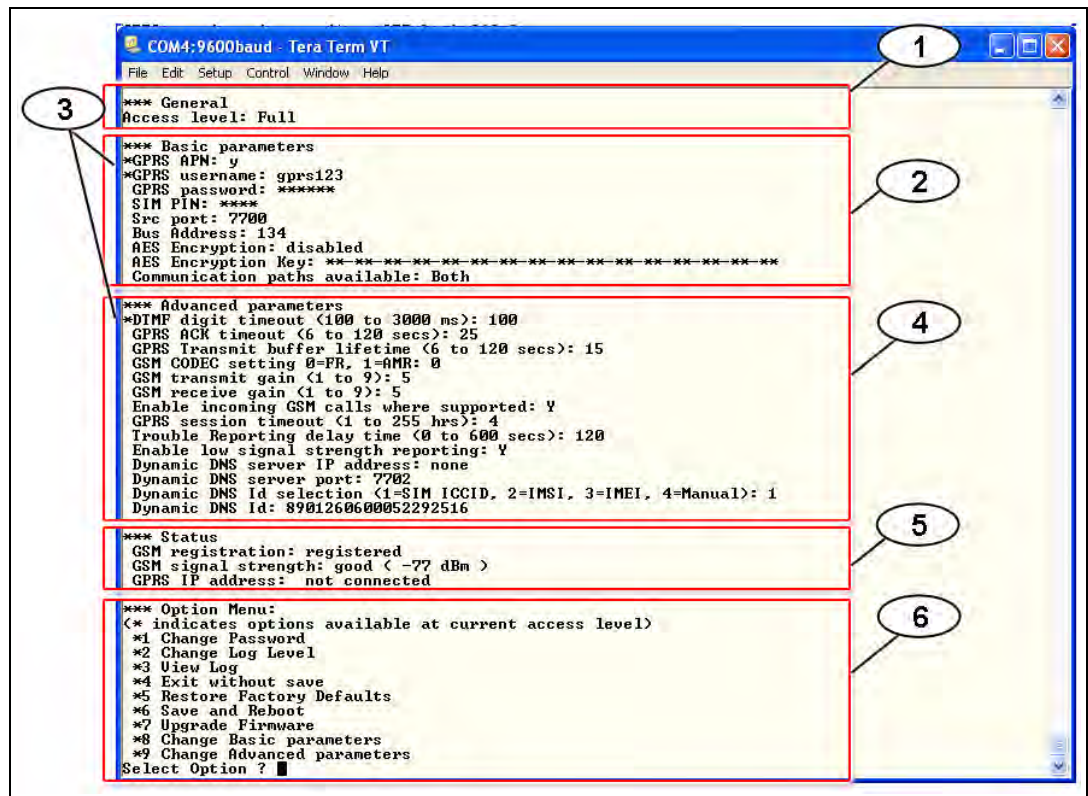

Figure 4.7 USB Main Menu
7. Press [Enter] to continue. The USB main menu opens. Refer to *Figure 4.7, Page 27*.
To see the USB option menu, refer to *Figure 4.7, Page 27*.